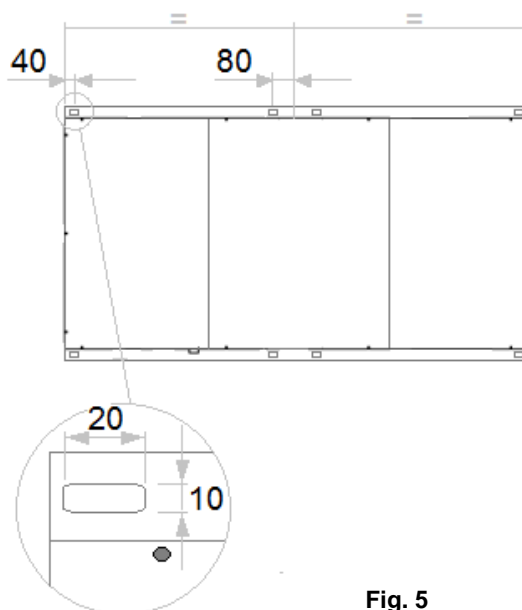

Fig. 5
- Framework supporting the unit (and its possible options) shall be suitable to support the whole weight; position of supporting points (horizontal version) are shown on **fig. 5**.